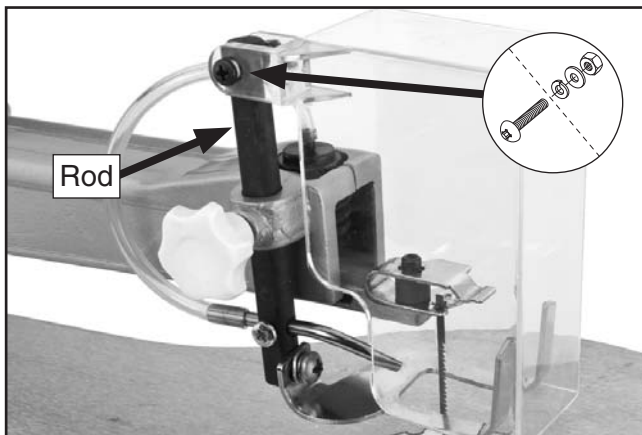

Figure 9. Blade guard installed.
2. Use the pre-installed Phillips head screw, hex nut and washers to attach the blade guard to the top of the hold-down shoe rod, as shown in **Figure 9**. Avoid over-tightening screw!